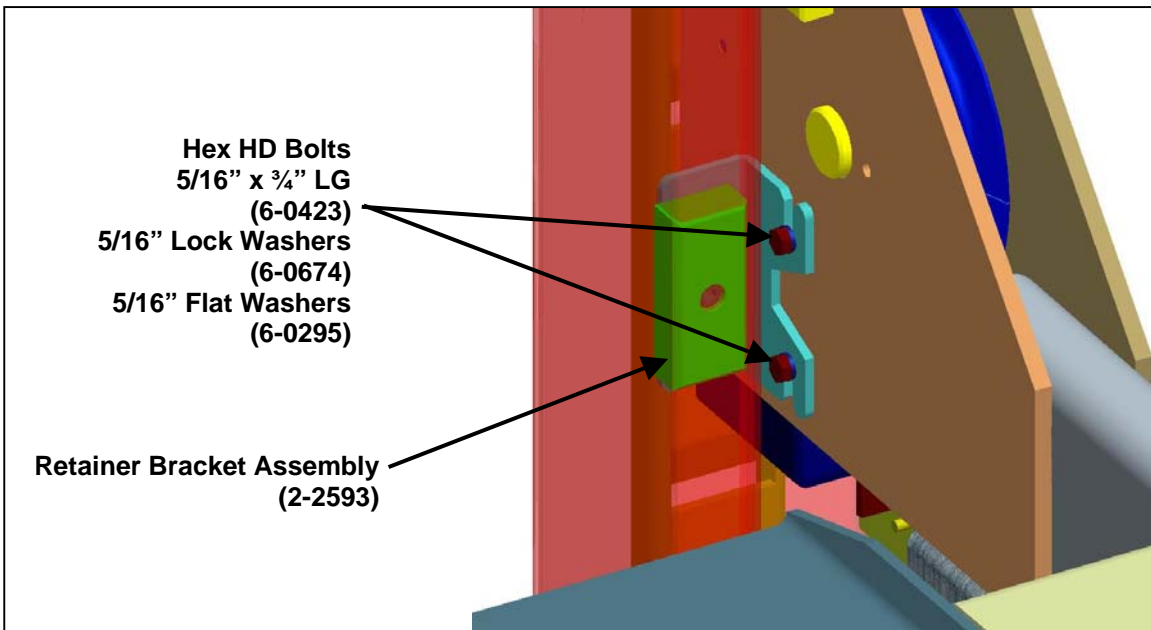

Figure 12. Retainer bracket installation
- Install the second 5/16" x 3/4" long hex head bolt and 5/16" lock washer through the lower slot and into the bottom mounting hole in the crossmember. Tighten both of the bolts. See Figure 12.